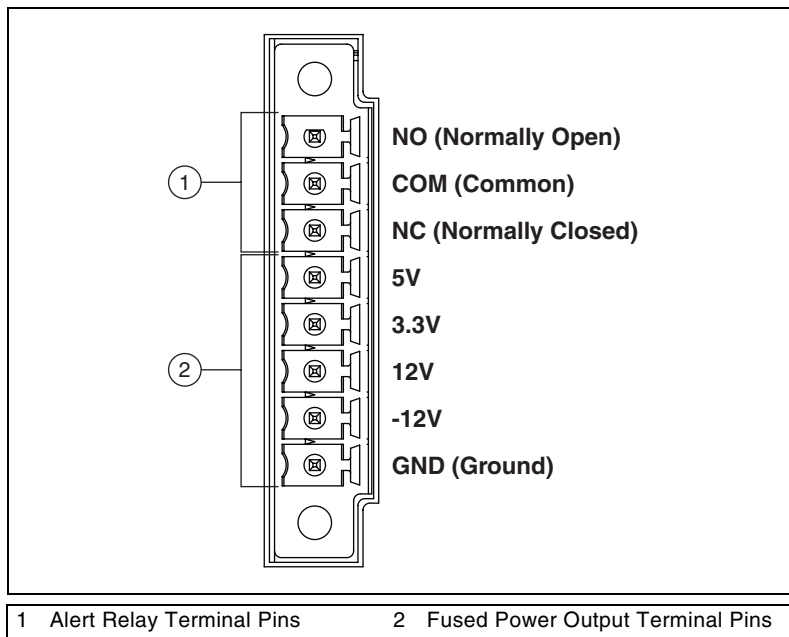

Figure 3-5. NI PXI-8250 Front Panel Connector Pinout Diagram
Figure 3-5 shows the layout of this connector.
The NI PXI-8250 has an electromechanical non-latching relay with three ports: normally open (NO), normally closed (NC), and common (COM). The top three pins of the front panel connector are connected to a relay as indicated in Figure 3-5. This relay is useful for a creating a custom external warning indicator circuit, such as a factory warning light or speaker.
The lower 5 pins of the 8-pin front panel connector are general purpose power outputs connected to each voltage rail of the power supply. Refer to Figure 3-5 for the location of the power output pins. The +5 V, +3.3 V, +12 V, and -12 V rails are all available from these connector pins along with a ground connection at the bottom. These pins draw power from the chassis power supply and are protected from current over-draw with self-resetting fuses. Table 3-2 lists the maximum power output ratings for each voltage rail.